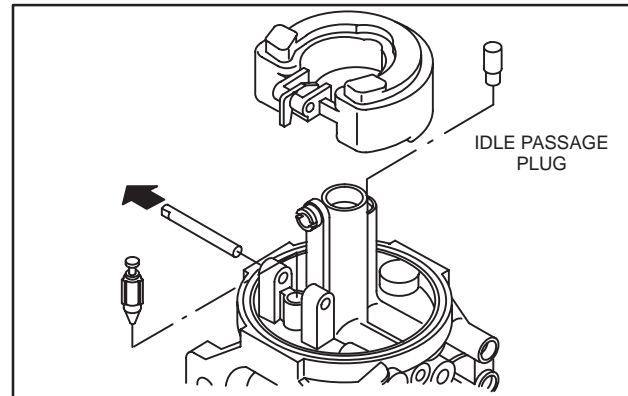

Fig. 29 – Removing Float And Idle Passage Plug
2. Drive out float hinge pin with a small punch. Remove float and fuel inlet valve, Fig. 29.
3. Remove idle passage plug, Fig. 29.